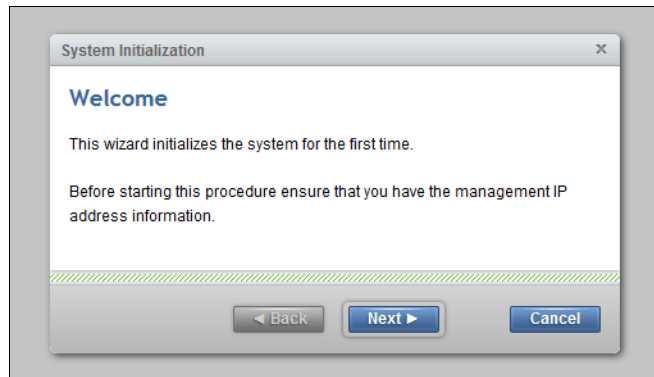

Figure 2-16 System initialization: Welcome
4. After the Ethernet port of the personal computer connects, open a supported browser and browse to address `http://install`. (If you do not have DHCP, open a supported browser and go to this static IP address: 192.168.0.1.) The browser is automatically directed to the initialization tool as shown in Figure 2-16.